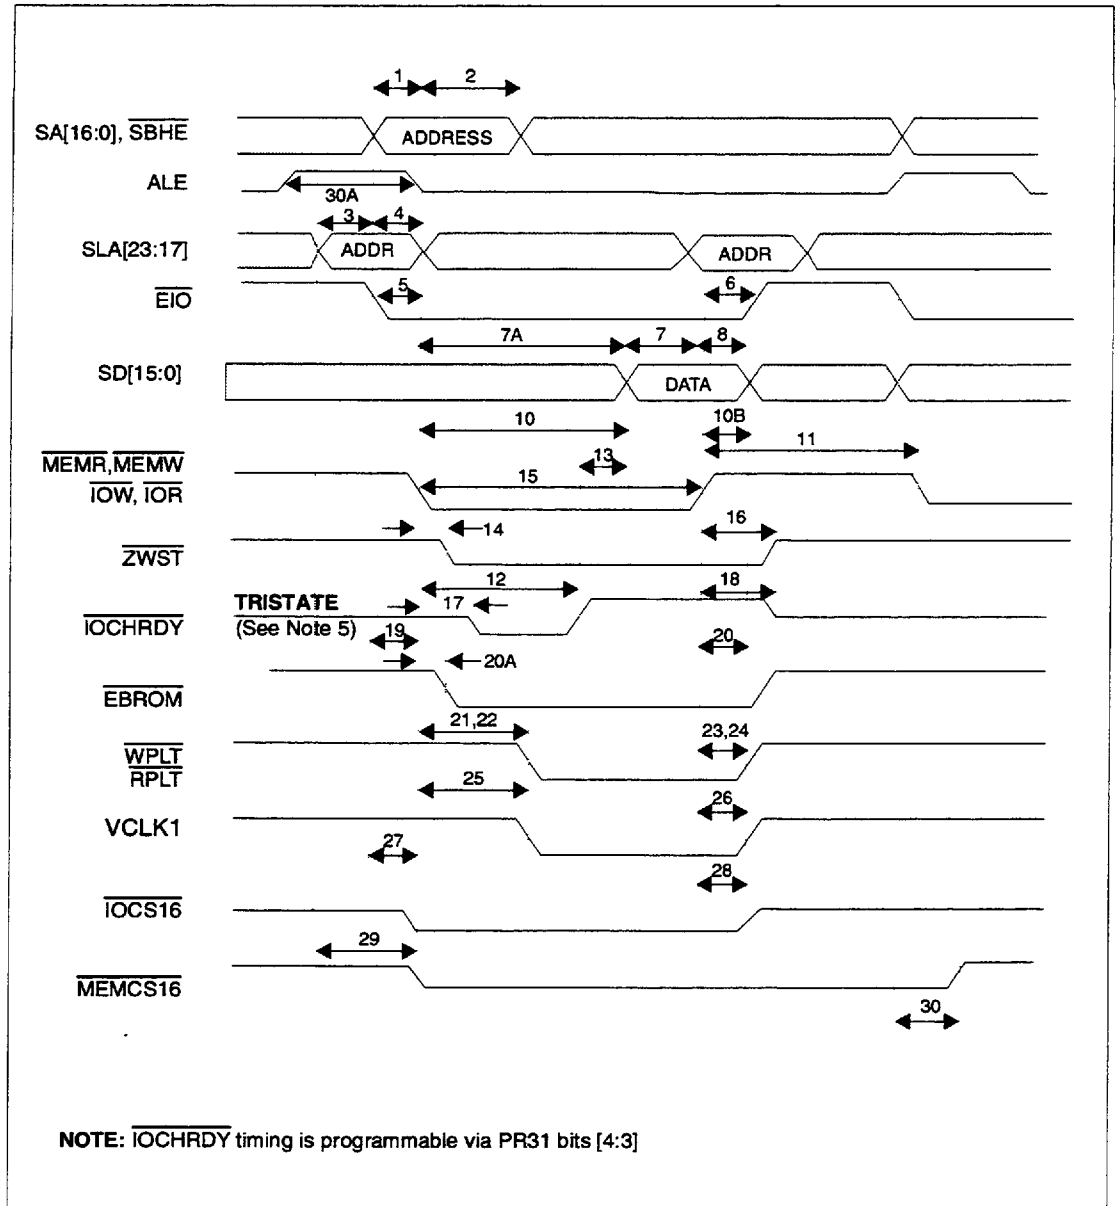

FIGURE 30-3. I/O AND MEMORY READ/WRITE ISA (AT) MODE TIMING
30.5 I/O AND MEMORY READ/WRITE TIMING IN ISA (AT) MODE
The I/O and memory read/write timing in ISA (AT) bus mode is listed in Table 30-4 and shown in Figure 30-3.